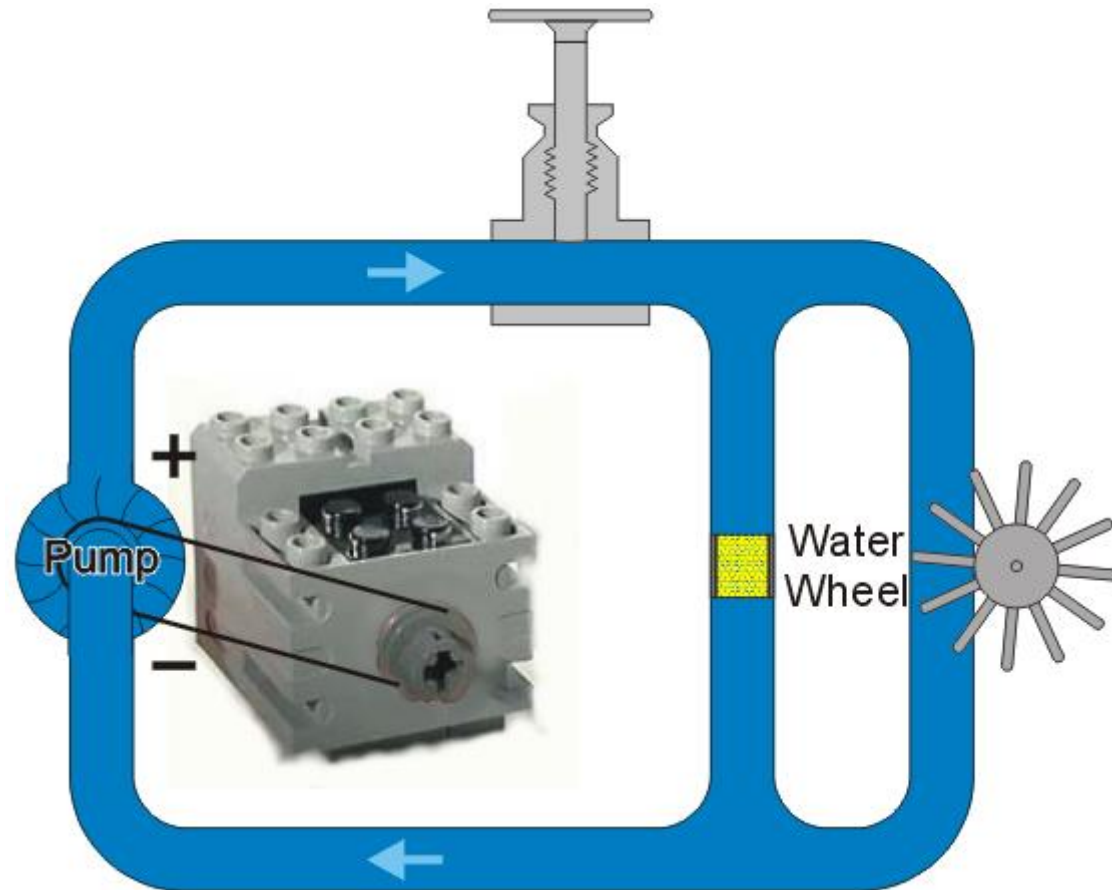

Fig 15: A valve, water wheel, and sand filter..
- Suppose we place a sand filter in parallel with the water wheel as is shown in **Fig.15**.